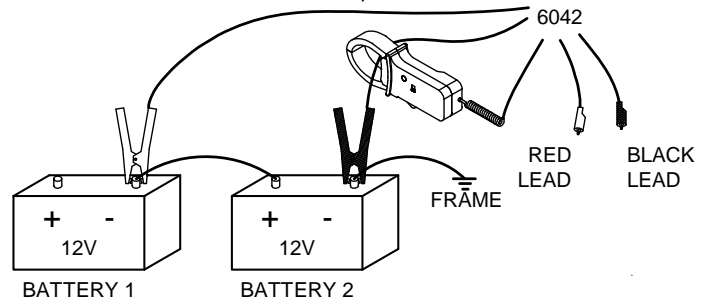

FIGURE 4
- 2) Attach the negative heavy duty lead to the negative terminal of Battery 2. Attach the positive heavy duty to the negative terminal of Battery 1. (By attaching at that point and not at the positive terminal of Battery 2, we will check the connection between the batteries at the same time.) Attach the negative light gauge voltage lead to the positive terminal of Battery 2 and the positive light gauge lead to the negative terminal of Battery 1. (See figure 4)